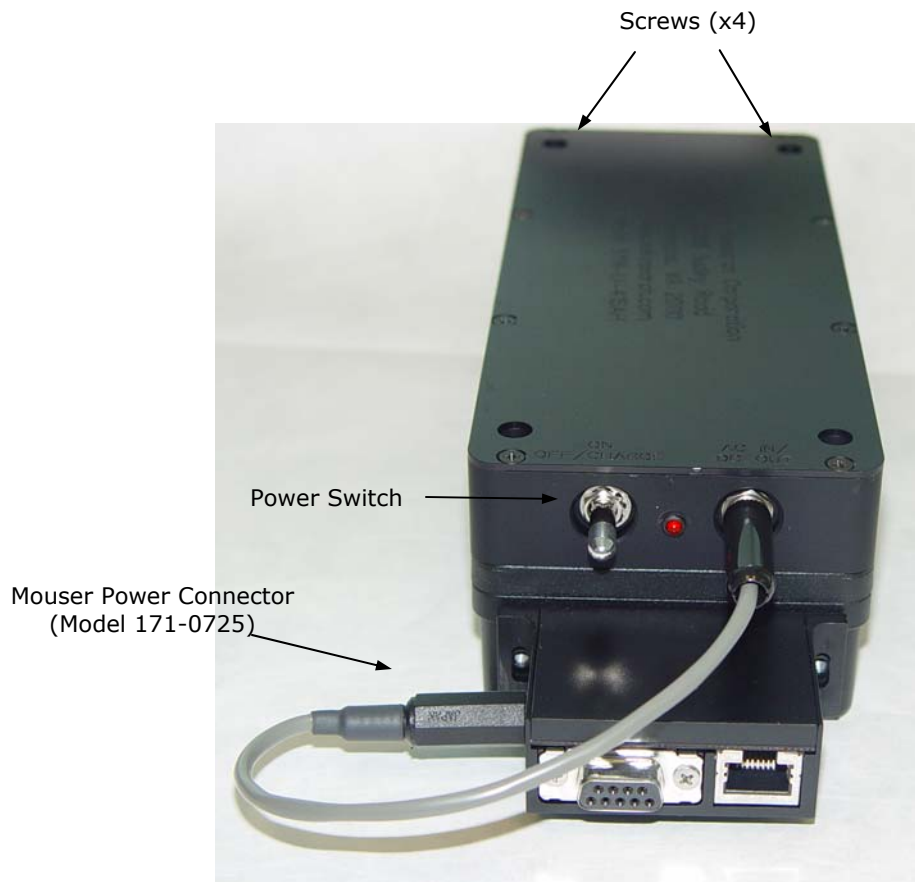

Figure 2. Battery pack mounted to the base of the A3LA-D modem.
1. Use the four (x4) screws provided to mount the battery pack to the base of the modem as shown in Figure 2. Make sure the four mounting holes on the modem base are tapped. Self-tapped screws can also be used.
4. Plug the power cable to the battery pack and the DB25 Data Kit as shown in Figure 2. The end with the Mouser connector with locking tab should go onto the DB25 Data Kit and the phono-jack connector should go onto the battery pack.